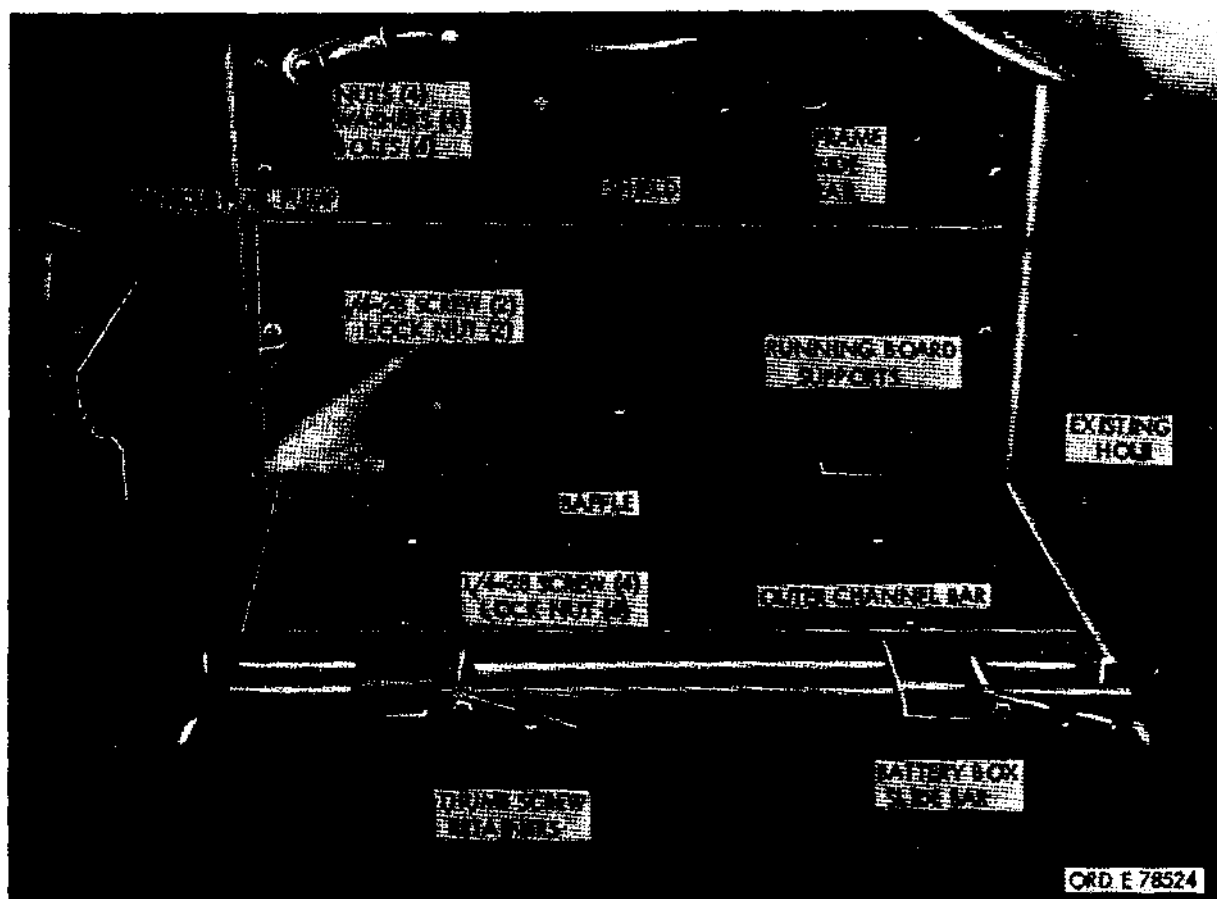
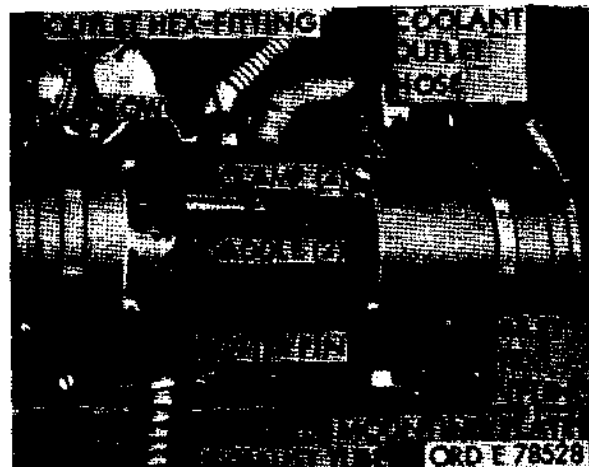

Figure 697. Installation of baffle and shield.
Figure 701. Mounting power plant heater.
- (1) Place baffle 7700424 on battery box support as indicated in figure 697.
- (2) Using baffle as a template, locate four baffle mounting holes.
- (5) Place shield 10931883 against and between the running board supports as indicated in figure 697.
Note. Semi-circular cut-out is positioned around existing bolt and nut which secures vehicle exhaust pipe bracket (fig. 697).
- (10) Remove the four nuts, washers and bolts from the top inner sides of running board hangers (fig. 697).
- (11) Secure heater mounting plate 10896366 to running board supports using nuts, washers, and bolts removed in (10) above.
- (1) Before attaching heater to mounting plate, slide one end of (56 in. long) heater-to-shroud exhaust tube (7986268) onto exhaust pipe of heater. Drill a 5/32 dia. hole, 3/8 in. from end, through tube and heater pipe (fig. 701) and insert cotter pin MS 96906-24665-363.
- (2) Run exhaust tube through hole in curved shield until heater abuts on plate. Attach heater to plate with round clamps through saddles (fig. 701).
- (3) Attach exhaust tube 7986268 to shroud tube attachment and drill through tube and shroud tube with 5/32 dia. drill, 3/8 in. from end. Fasten with cotter pin, MS 96906-24665-363.
- (4) Fasten bracket 10931985 to existing forward bottom screw hole in forward right running board support (fig. 697), using screw MS 96906-35291-60 and nut MS 96906-51922-17 (figs. 699 and 700). Secure tubing to bracket with clamp 8707524 1/4-28x3/8, screw MS 96906-35292-8, nut MS 96906-51922-5 and washer MS 96906-27183-10.
- (4) Screw 45 degree elbow MS 96906-24518-7 into outlet hex-fitting on top of heater (fig. 701).